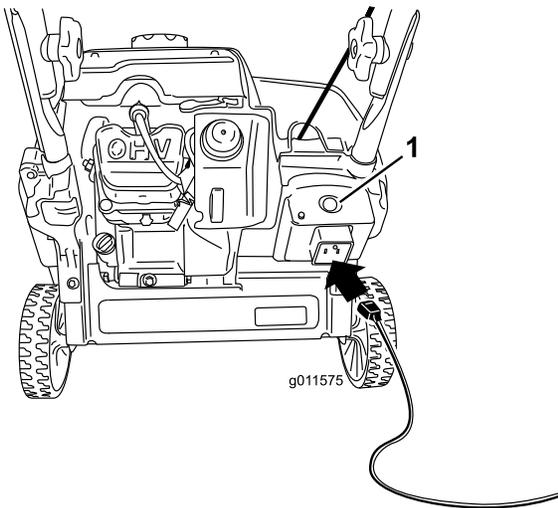
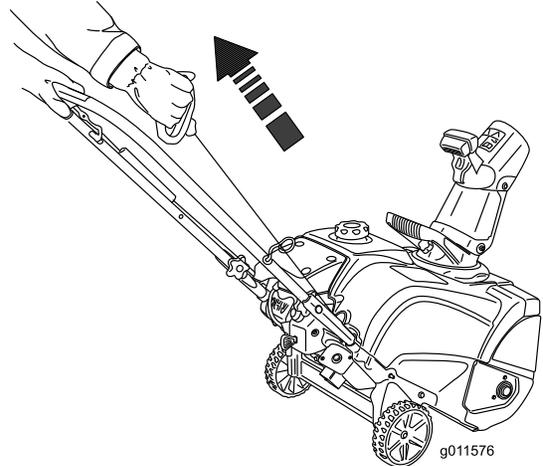

Figure 18
Figure 19
4. Connect an extension cord to a power source and the machine, and push the electric-start button (model 38283 only) (Figure 18), or pull the recoil start handle (Figure 19).